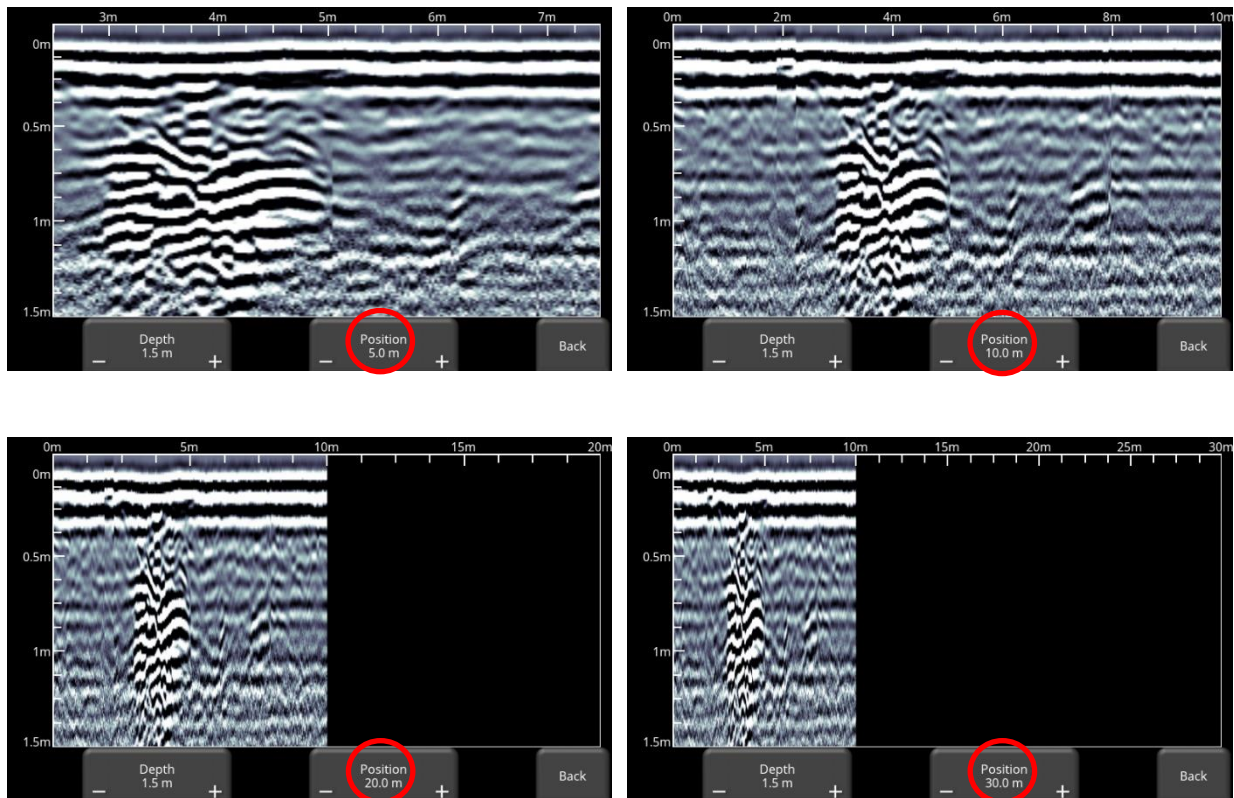

Figure 6-9: Varying position, or horizontal scaling
- **Position** – Pressing **+** and **-** under the **Position** button allows you to change the length of data display on a single screen. This is also known as horizontal scaling. The pre-set values range from 5m to 30m (10' to 75'), see Figure 6-9. One reason for setting this to 30m would be to fit more data on the screen and look for anomalies relative to the surrounding soil.